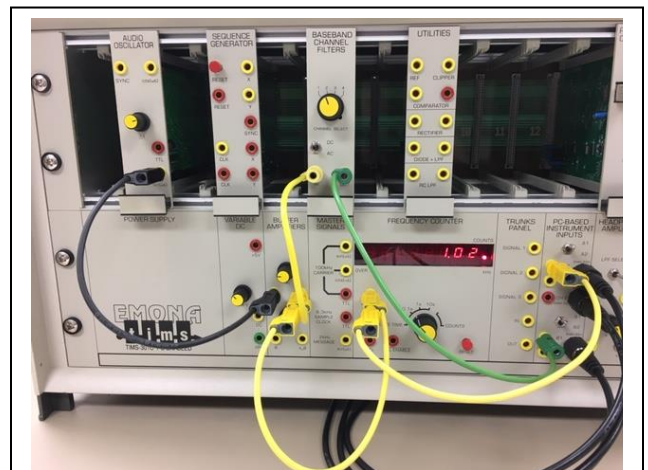

Fig 24 Configuration to view sinusoidal signals
2. Connect the AUDIO OSCILLATOR $\sin(\omega t)$ output to the BUFFER AMPLIFIER input A. See Figure 24 (black lead)
3. Connect the BUFFER AMPLIFIER output k1A to the FREQUENCY COUNTER, THE BASEBAND CHANNEL FILTERS input, and the Scope ChA. See Figure 24 (yellow leads)
- See Figure 24, green lead.